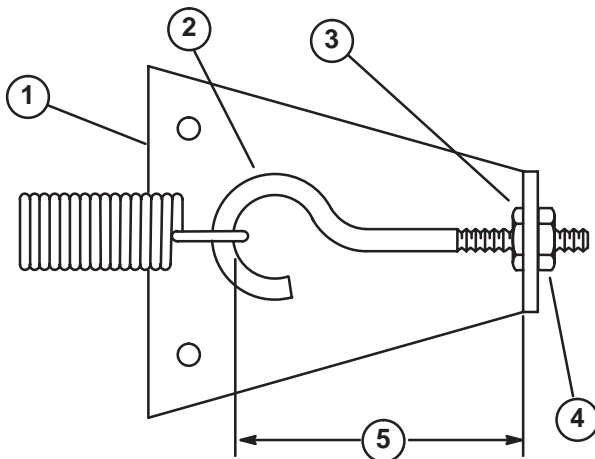

Figure 65
- Loosen outer hex nut securing eye bolt to spring anchor plate (Fig. 65).
- Rotate clockwise until distance between inside of eye bolt loop and inside of spring anchor plate is shortened 1/8 in., as shown in Figure 65. Tighten hex nut.